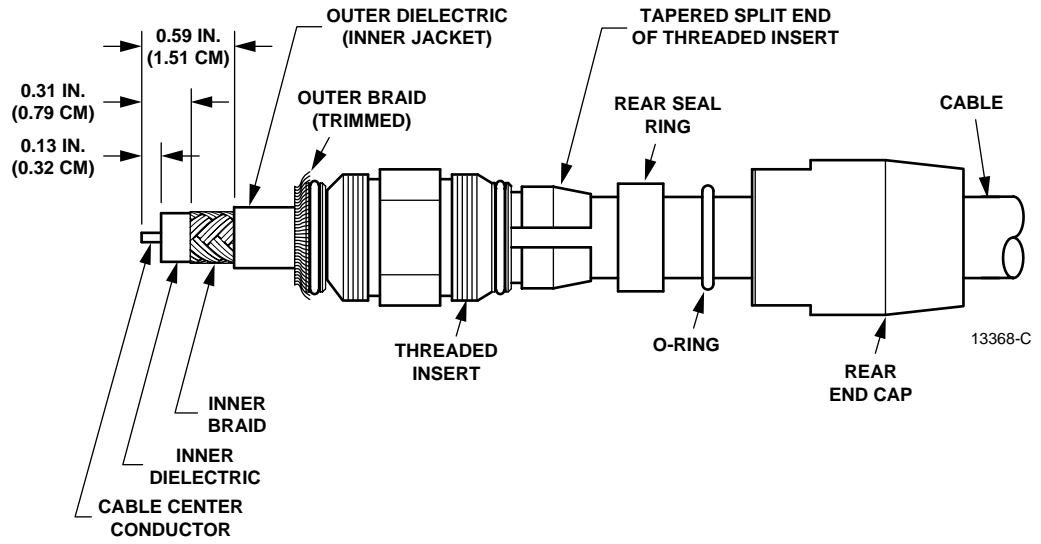

Figure 5. Outer Dielectric, Inner Braid, and Inner Dielectric Cut Dimensions; Threaded Insert on Cable
5. Slide the threaded insert (see Figure 3) over the tape and outer braid. Push the end of the threaded insert against the outer dielectric (inner jacket and insulation) until it is seated. See Figure 5.
6. Remove the tape from the end of the cable. Pull back the outer braid and comb it out over the threaded insert (see Figure 5).
7. Using the side cutters, trim excess braid so that the braid only reaches to the lip (raised edge next to o-ring) of the threaded insert. See Figures 5 and 6.
9. Using the blade, remove the outer dielectric (inner jacket and insulation) so that the length from the end of the cable to the end of the outer dielectric is 0.593 inch (see dimensions in Figure 5). Cut the outer dielectric only, evenly around the cable.
10. Using the blade, remove the inner braid so that the length from the end of the cable to the end of the inner braid is 0.312 inch (see dimensions in Figure 5) Cut the inner braid only, evenly around the cable.
11. Using the blade, remove the inner dielectric so that the length from the end of the cable to the end of the inner dielectric is 0.13 inch (see dimensions in Figure 5). Cut the inner dielectric only, evenly around the cable.